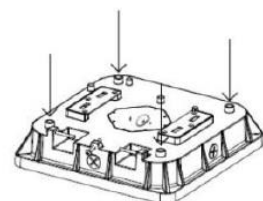

Figure 13
2. Drill holes in each of the four mounting channels in the die cast housing (see Figure 13).